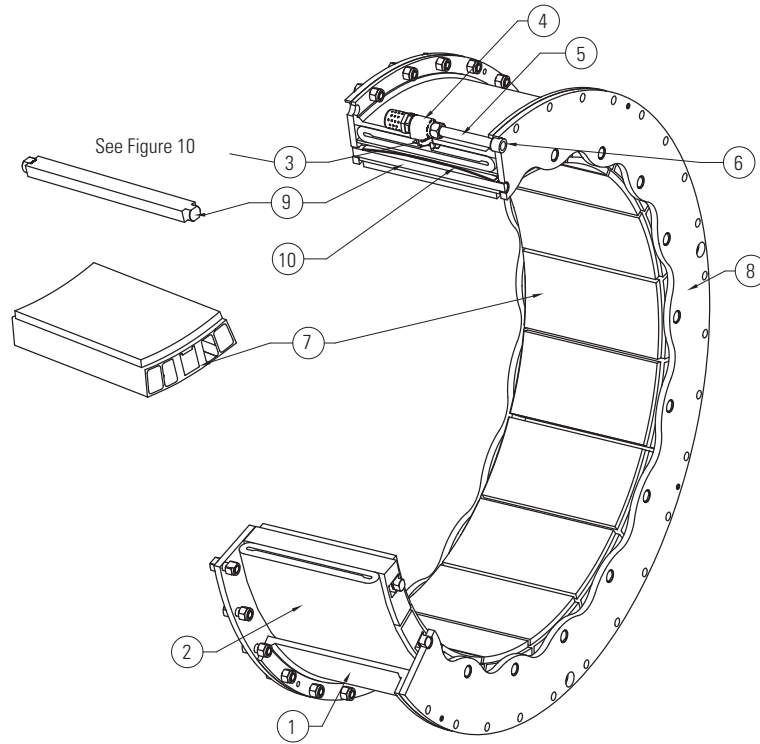

Figure 1
1.2.1 Referring to Figures 1, 2, 3 and 4, the neoprene and cord actuating tube is contained within a steel rim which is drilled for mounting to the driving component. As air pressure is applied to the air actuating tube, the tube inflates, forcing the friction shoe assemblies uniformly against the drum, which is attached to the driven component. The friction shoe assemblies, which consist of the special high coefficient friction pads bonded to aluminum backing plates, are guided by torque bars which are inserted into the element side plates. The torque path is from the driving shaft, through the element mounting component (typically an iron spider), through the element rim and side plates and the torque bars, backing plates and friction material. The torque is then transmitted through the friction couple to the driven shaft. When the specified applied air pressure is exhausted, release springs and centrifugal force assure immediate and positive disengagement.